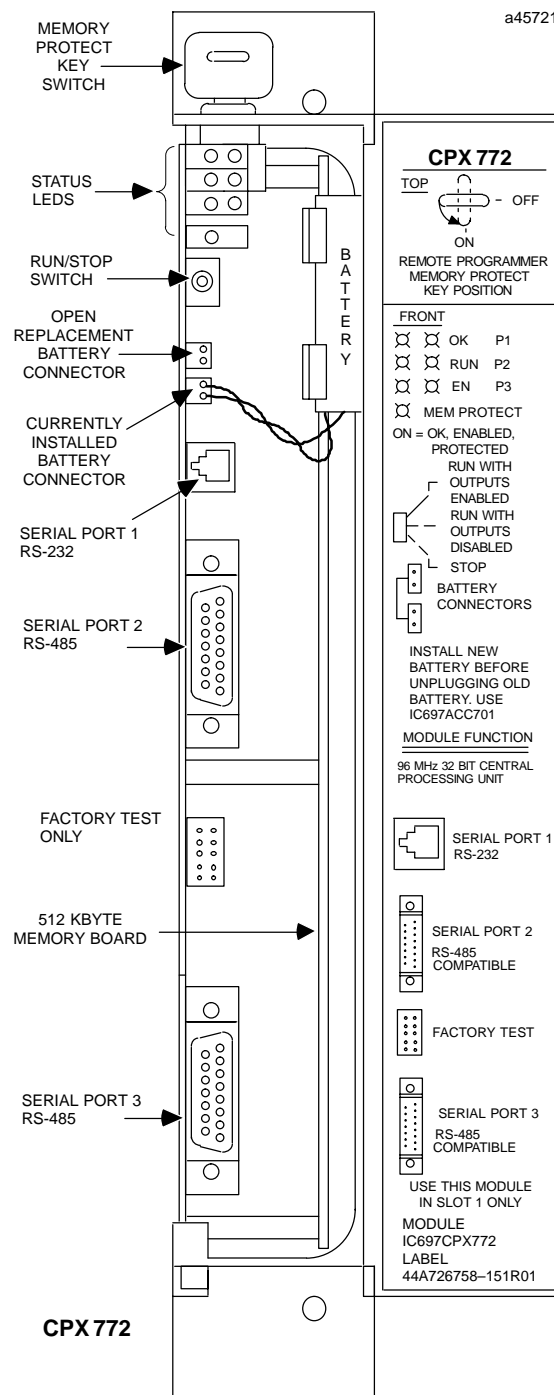

Figure 2. CPX 772 - Location of Major Features
- Connect the battery to either of the battery connectors on the module (see Figure 2).
A lithium battery (IC697ACC701) is installed as shown in Figure 2. This battery maintains program and data memory when power is removed and operates the calendar clock. Be sure to install the new battery before removing the old battery. Specific indication of a low battery state is detailed in the applicable *Programmable Controller Reference Manual*.